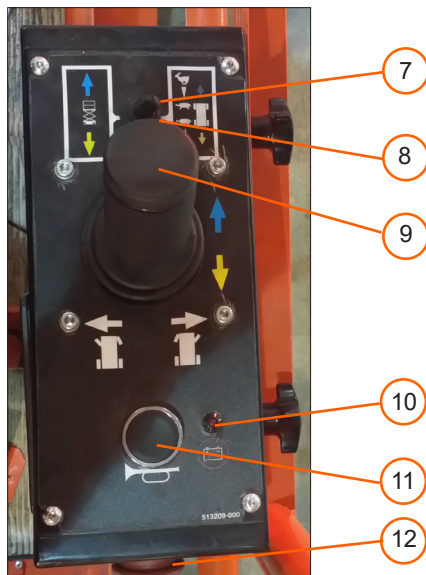

Figure 2 – Upper Controls and Indicators
The upper controls (refer to Figure 2) are located on the control panel at the platform. Platform and drive functions can be operated from the upper controls.
10. Test each machine function from the upper control station by engaging the interlock and operating the function controls (refer to Figure 2).